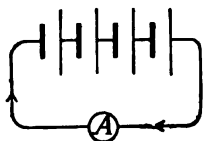
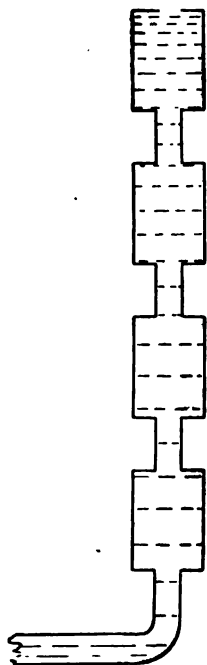

FIG. 251.—Diagram of cells connected in series.
FIG. 256.—The four cans exert four times the water pressure that one can will exert.
**271. Conditions Affecting Current Flow.**—Sometimes over a long circuit one cell will not work a telegraph sounder. In such a case, two, three, or more cells are connected so that the zinc of one is joined to the copper plate of the other. When connected in this way the cells are said to be *in series* (Fig. 251). In the figure *A* represents a voltmeter. It is found that *when cells are in series the E.M.F. of the battery is the sum of the electromotive forces of the cells.*
**276. Cells Grouped in Series and in Parallel.**—When in *series* the copper or carbon plate of one cell is joined to the zinc of another and so on. (See Fig. 251.) The effect of connecting, say four cells, in series may be illustrated by taking four cans of water, placed one above another. (See Fig. 256.) The combined water pressure of the series is the sum of the several pressures of the cans of water, while the opposition offered to the movement of a quantity of water through the group of cans is the sum of the several resistances of the cans. In applying this illustration to the voltaic cell, we make